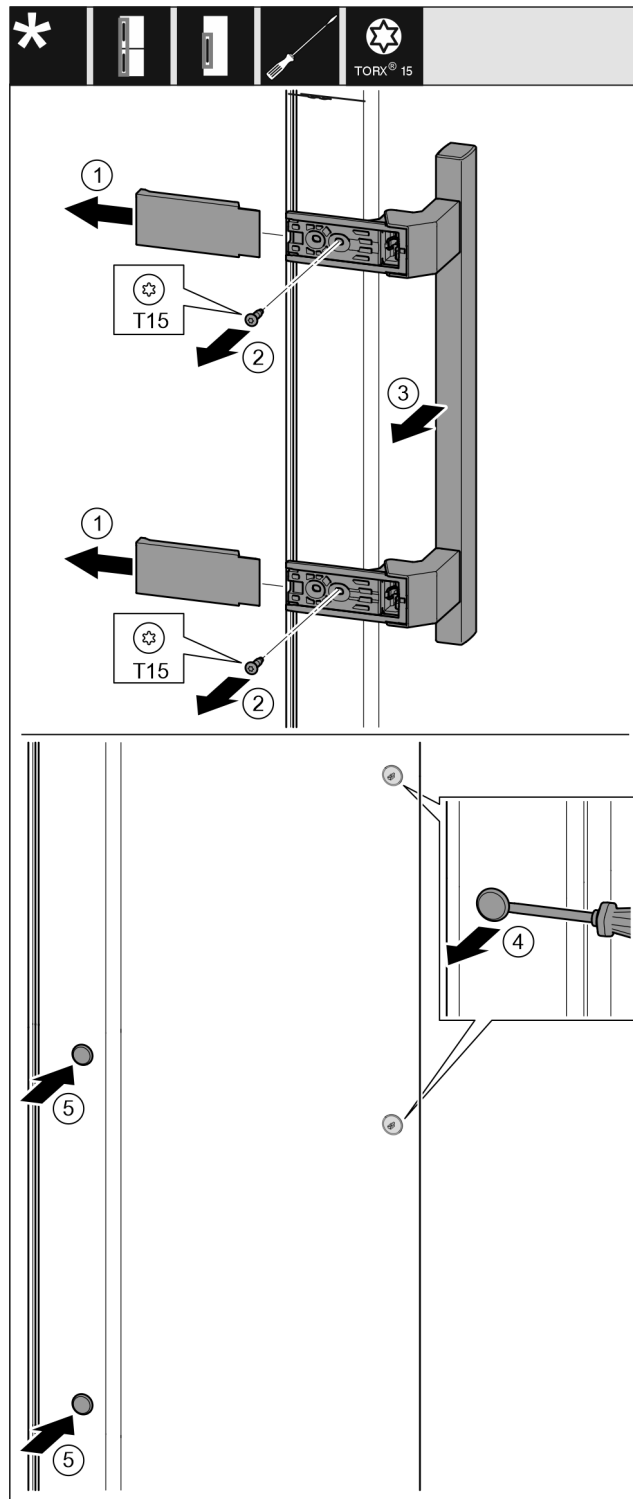

Fig. 16
- Pull off the cover. Fig. 16 (1)
- Remove the screws with a T15 screwdriver. Fig. 16 (2)
- Take off the handle. Fig. 16 (3)
- Carefully lift up the side plugs with a slotted screwdriver and pull them out. Fig. 16 (4)
- Insert the plugs again on the other side. Fig. 16 (5)